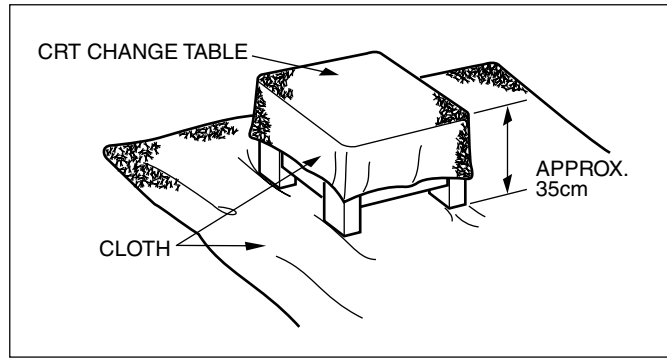

Fig. 2
- 1. Putting the CRT change table on soft cloth, the CRT change table should also be covered with such soft cloth (shown in Fig.2).
(4) System constant check and setting <ol style="list-style-type: none"> <li>1) Press SLEEP TIMER key and, while the indication of "SLEEP TIMER 0 MIN." is being displayed, press DISPLAY key and VIDEO STATUS key on the remote control unit simultaneously.</li> <li>2) The SERVICE MENU screen of Fig.1 is displayed.</li> <li>3) While the SERVICE MENU is displayed, again simultaneously press the DISPLAY and VIDEO STATUS keys to display the Fig.2 SYSTEM CONSTANT screen.</li> <li>4) Refer to the SYSTEM CONSTANT table and check the setting items. Where these differ, select the setting item with the MENU UP/DOWN key and adjust the setting with the MENU LEFT/RIGHT keys. (The letters of the selected item are displayed in yellow.)</li> <li>5) After adjusting, release the MENU LEFT/RIGHT key to store the setting value.</li> <li>6) Press the EXIT key twice to return the normal screen.</li> </ol>	<div data-bbox="1036 814 1453 1123"> </div> <p>[AV-32230]</p> <div data-bbox="1036 1182 1453 1491"> </div> <p>[AV-32260]</p> <p>Fig.1</p> <div data-bbox="1036 1589 1453 1898"> </div> <p>Fig.2</p>